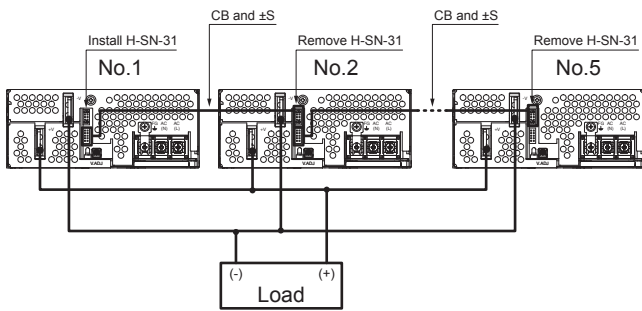

Fig.5.11 Parallel operation condition (Example of PJMA1000F)
- ① (Before wiring) set the output voltage of each unit to the desired value. The output voltage difference between the units must be less than 0.1V or 1% of the rated output voltage, whichever is smaller.
- ② Wire the power supplies as shown in Fig. 5.11. Make sure the output wires of the unit connected in parallel are of the same length and the same type.
- ③ Make sure the total output current does not exceed the value determined by the following formula: